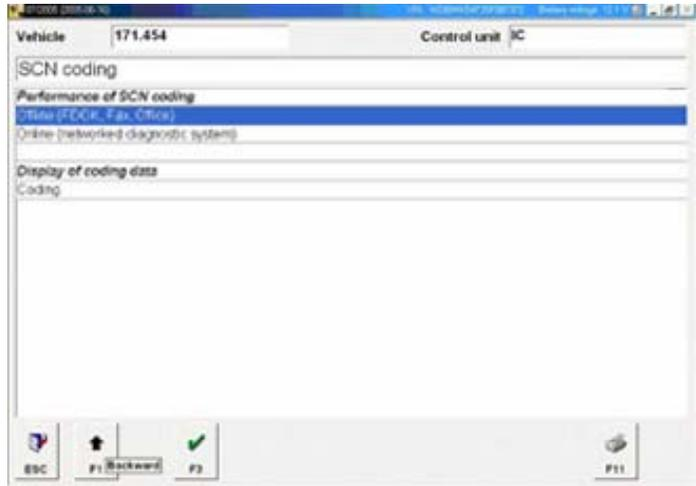

Figure 1
2. Select 'Offline (FDOK, Fax, Office),' Press 'F3' (Figure 1)